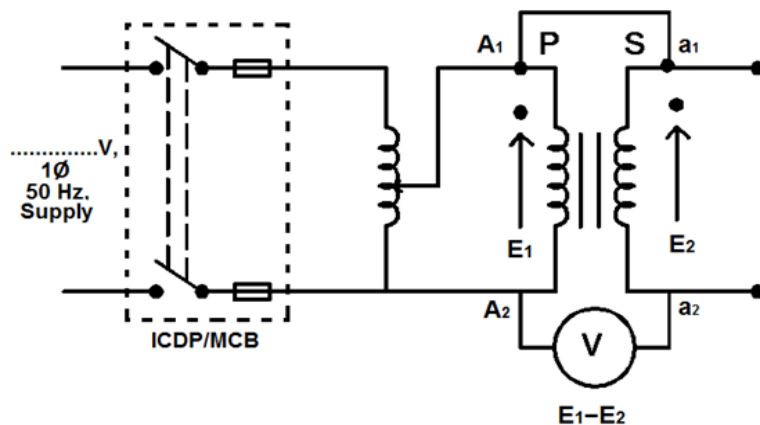

Fig 1 Subtractive polarity
1. Make the connections as per circuit diagram. (Fig.1)